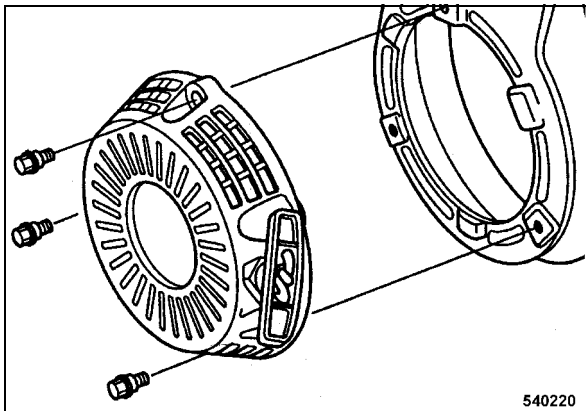

Fig. 47
- Disassemble the recoil starter (Fig. 47).